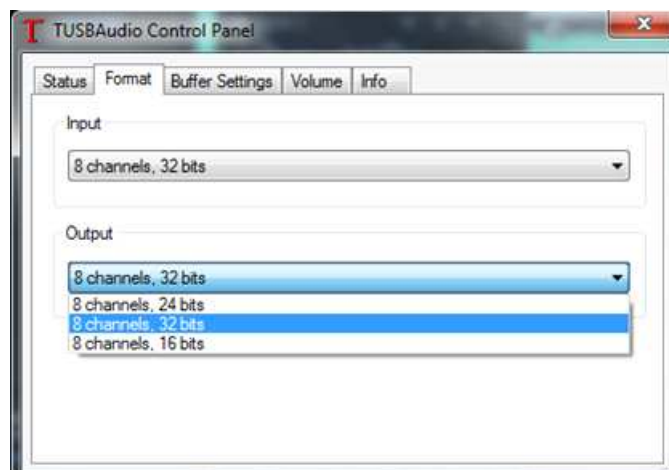

Figure 5. Texas Instruments Audio Control Panel
- Set the bit depth as desired using the *Texas Instruments Audio Control Panel*, which is accessible from the system tray shown in Figure 5.
8. Set the bit depth as desired using the Texas Instruments Audio Control Panel accessible from the system tray shown in Figure 5.